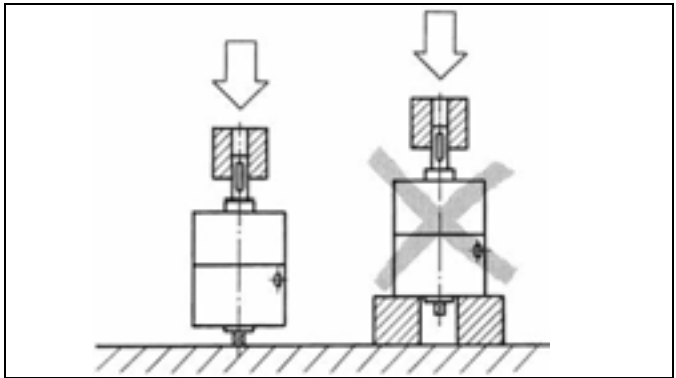

Fig. 4: Load directly on the shaft
- ▶ When attaching a load to the shaft of the Drehantrieb, the force must be carried by the shaft itself. See Fig. 4.